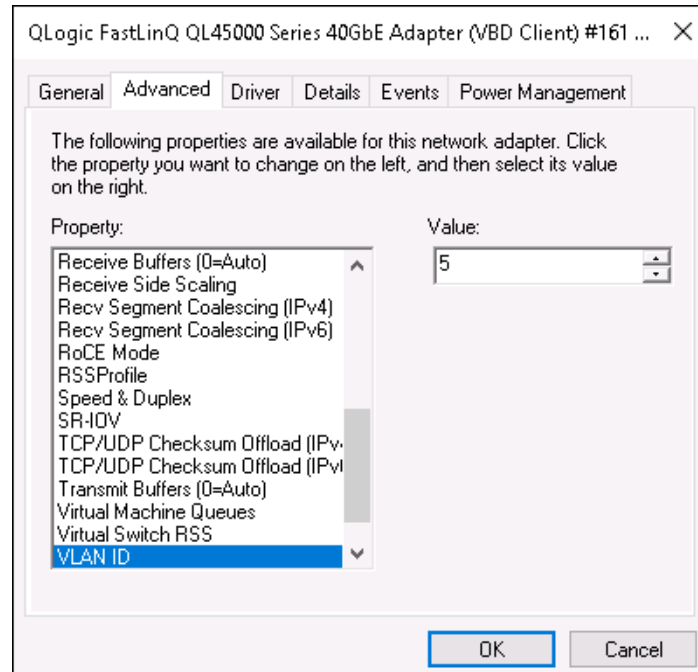

Figure 9-10. Advanced Properties: Setting VLAN ID
- b. On the adapter's Advanced Properties page (Figure 9-10) under **Property**, select **VLAN ID**, and then set the value.